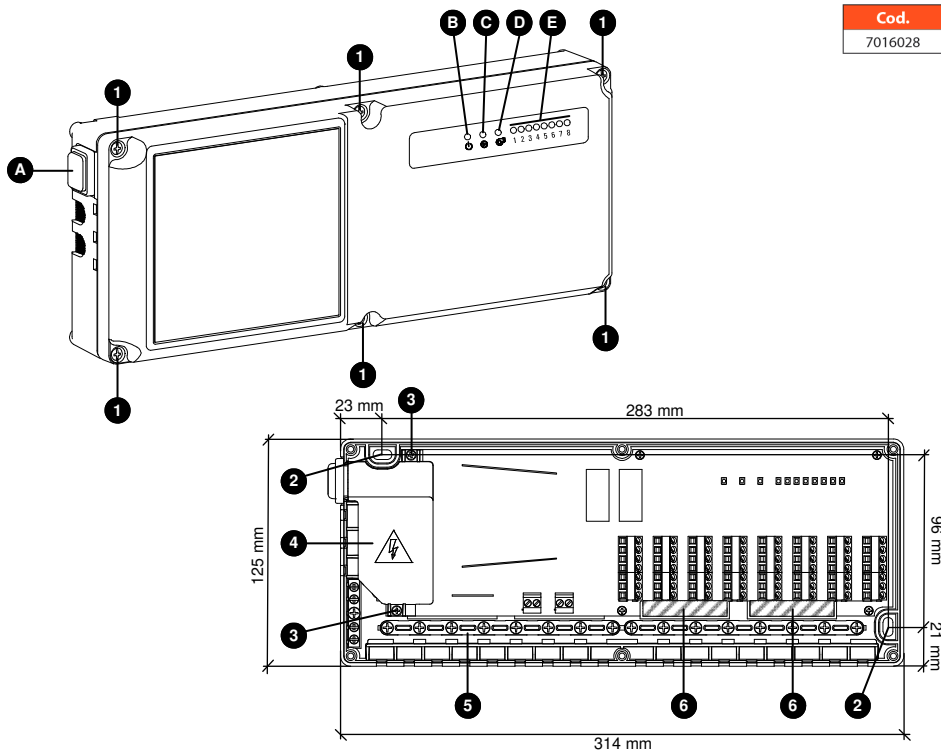

Fig. 1: Internal view and parts.
Green LED: power supply '⏻' (Ⓐ Fig. 1)
Red LED: pump output activation '⦿' (Ⓒ Fig. 1)
Red LED: boiler output activation '⦿' (Ⓓ Fig. 1)
Actuator outputs state LEDs '1 .. 8' (Ⓔ Fig. 1)
ON / OFF illuminated switch (Ⓐ Fig. 1)
The illuminated switch at the lower left hand side of the wiring centre will isolate the whole of the wiring centre except the parts under the plastic cover, item ④, Fig. 1, to allow access to thermostats and actuators for testing and fault finding during installation.
- Remove the 6 screws labelled as ① in Fig. 1 then remove the front plastic cover.
- Fix the device base to the wall by using the two screw holes labelled ② in Fig. 1.
- Remove the 2 screws labelled as ③ in Fig. 1 then remove the plastic cover labelled as ④ in Fig. 1.
With the help of a screwdriver, remove the plastic knock-outs from the base, see item ⑥, Fig. 1. Cables can then be taken through the backplate to the terminal connections.